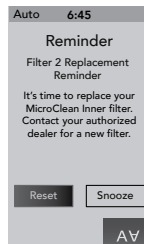

Figure 15.0e
21. **MicroClean Inner Filter Reminder:** This message will appear when the filter reminder time has expired (Figure 15.0e). The MicroClean Inner filter must be replaced.